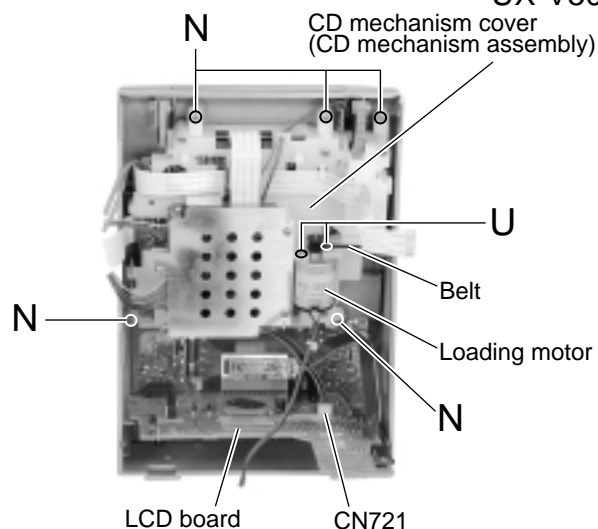

Fig.20
■ Removing the CD mechanism assembly (See Fig.20 to 23)